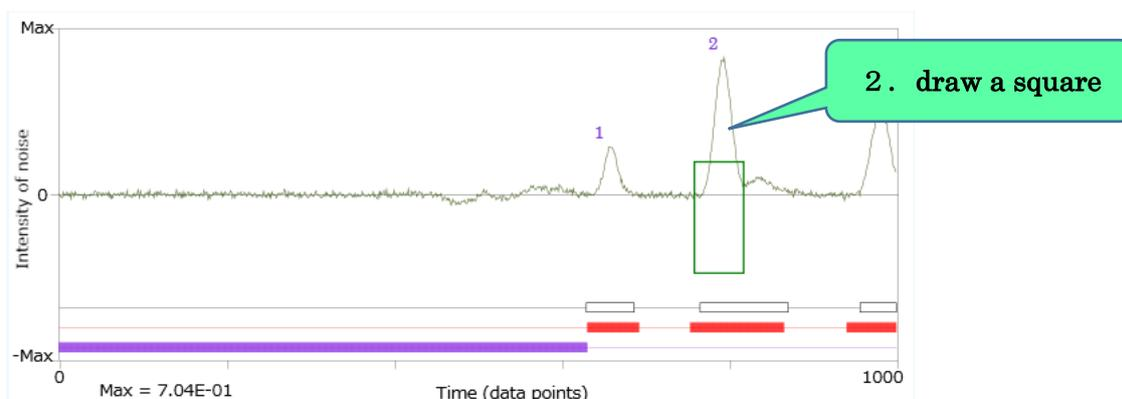

Figure 22 --- Chart (a framed box around one of two peaks)
2. draw a square around one of the overlapping peaks with the mouse (see Fig. 22);